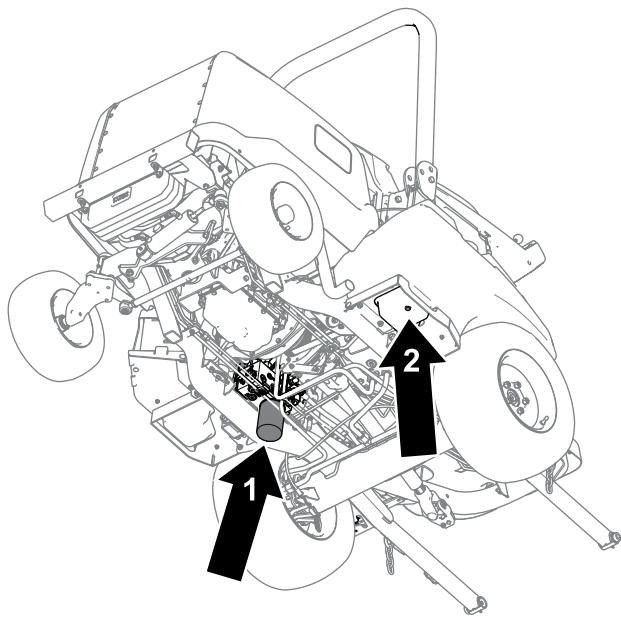

Figure 83
4. Remove the drain plug (Figure 83) from the bottom of the tank and let the hydraulic fluid flow into the pan.
6. Place a drain pan under the filter (Figure 83), remove the filter, and let any remaining oil drain into the pan.